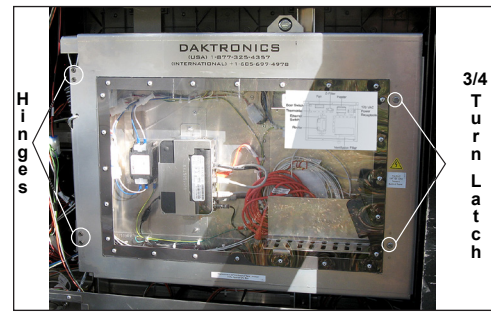

Figure 37: ISP Box Door Removal
1. Loosen the two 3/4 turn latches that secure the ISP enclosure cover. Refer to **Figure 37**.